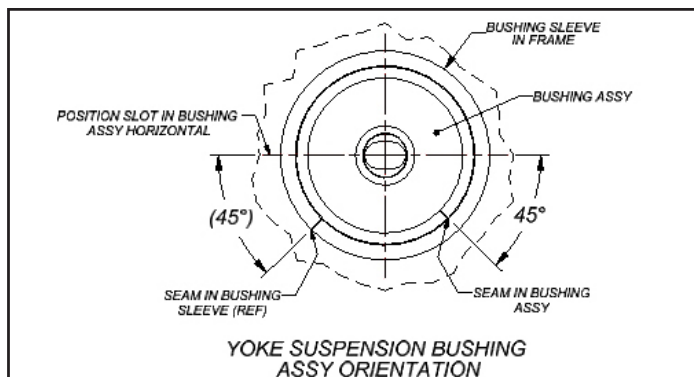

Figure 13. 260 Yoke Mount – Bushing Orientation
1. Remove bushing assembly from the bushing sleeve welded to the frame by grinding away the four (4) welds on each side of the bushing sleeve/frame bushing sleeve assembly.
2. Position (center) new bushing in the bushing sleeve welded to frame. Align the bushing assembly center slot and seam (Figure 13).
3. Attach bushing to the frame bushing sleeve with four (4) one-inch welds on each side. NOTE: Excessive heat and distortion can damage the bond between the rubber bushing and steel sleeve of the bushing assembly. Welds should be staggered and the steel allowed to cool between welds.